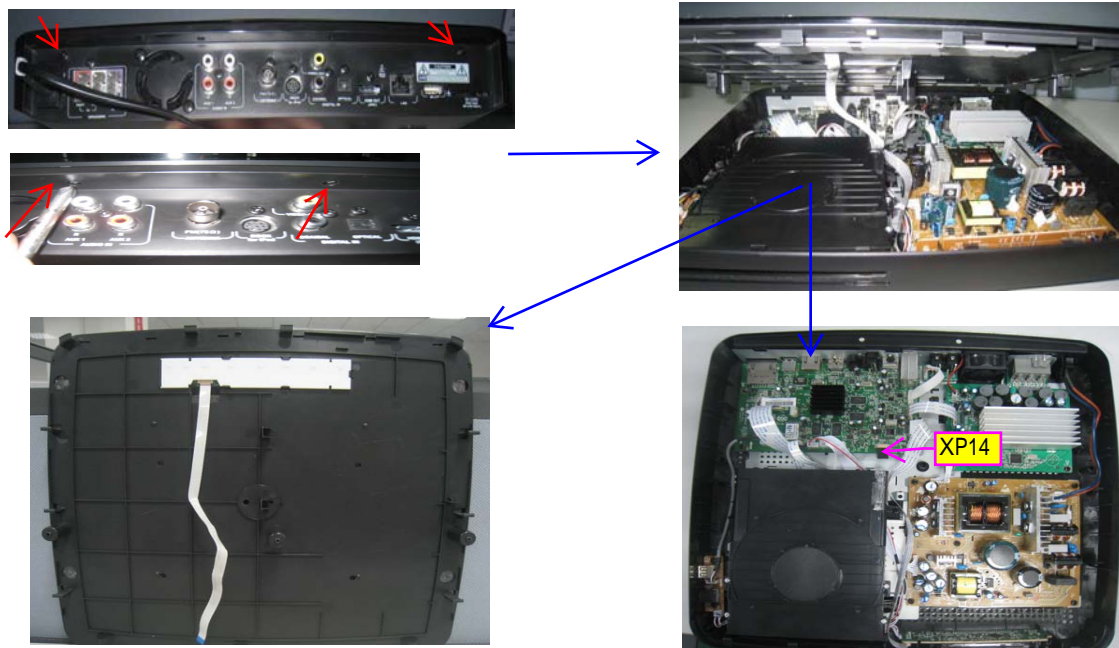

Figure 1
4. Put a paper clip on the flexfoil to short-circuit the contacts (fig.1)
Step1: Remove 2 screws of Rear Plate, and then dismantle the Turn Knob connecting TOP COVER and BOTTOM PLATE. Finally ,dismantle the XP14,then remove the TOP COVER (Figure 1).